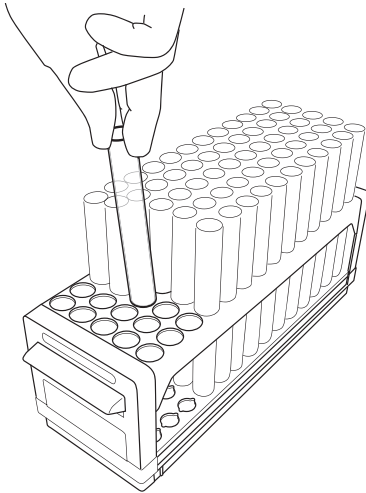

Figure 2-6 Loading test tubes
1. Insert test tubes, vials, or bottles into the rack (Fig. 2-6).